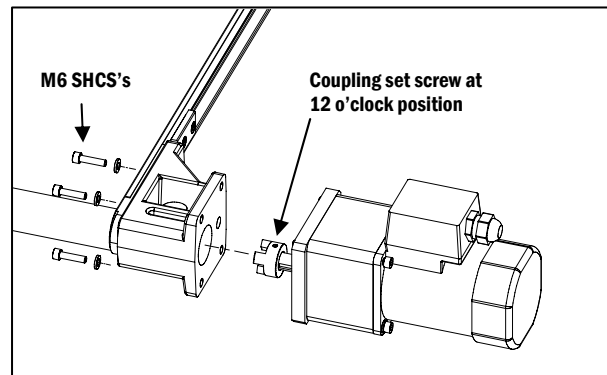

Figure 5
④ Install the Drive Package
a. Ensure the set screw on the gearmotor coupling half will be in the 12 o'clock position when engaged with the conveyor coupling half. Mount the gearmotor/subplate/coupling assy to the casting by tightening the four M6 Socket Head Cap Screws (Figure 5). Motor can be rotated in 90° increments for electrical wiring access.